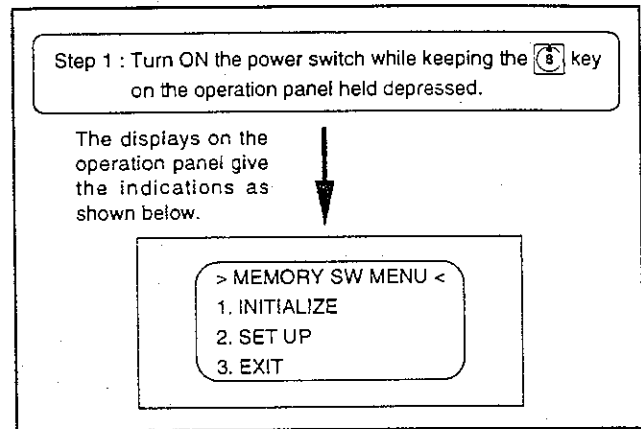

Fig. 3
<ul style="list-style-type: none"> ○ Adjusting the stroke of thread take-up spring <ul style="list-style-type: none"> Loosen setscrew ❶, and turn second thread tension ❷ with a screwdriver to adjust. ○ Adjusting the tension of thread take-up spring <ul style="list-style-type: none"> Securely tighten setscrew ❶, and turn second thread tension ❷ with a screwdriver to adjust. (Fig. 3) <p>(Caution) When using a thin thread such as thread count #50 or more, adjust the stroke of thread take-up spring to a smaller value. The length of remaining needle thread after thread trimming will be stable.</p>	<ul style="list-style-type: none"> ○ If the stroke of the thread take-up spring is larger than the specified value : Length of remaining needle thread is shortened, causing the needle thread to slip off the needle at the sewing start. ○ If the stroke of the thread take-up spring is smaller than the specified value : Needle thread breakage will occur at the time of thread trimming when using a thin thread. <p>(Caution) If the thread take-up spring interferes with the L-shaped thread guide, the thread take-up spring may fail to return to the initial position in prior to thread trimming. In this case, the length of remaining needle thread may be shortened. If this trouble arises, bend section ㉓ of the thread take-up spring, and widen the clearance of section ㉔ .</p>